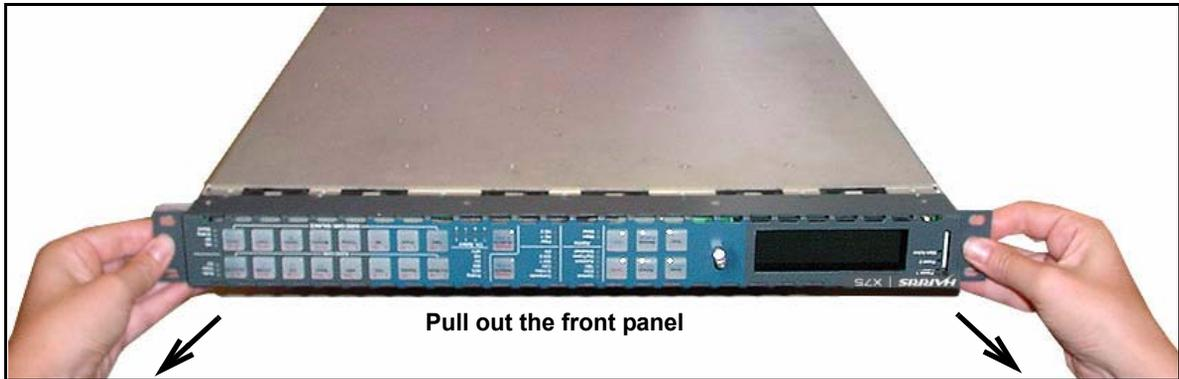

Figure C-54. Removing the Front Panel
3. Pull the front panel away from the frame. (See Figure C-54 on page 370.)